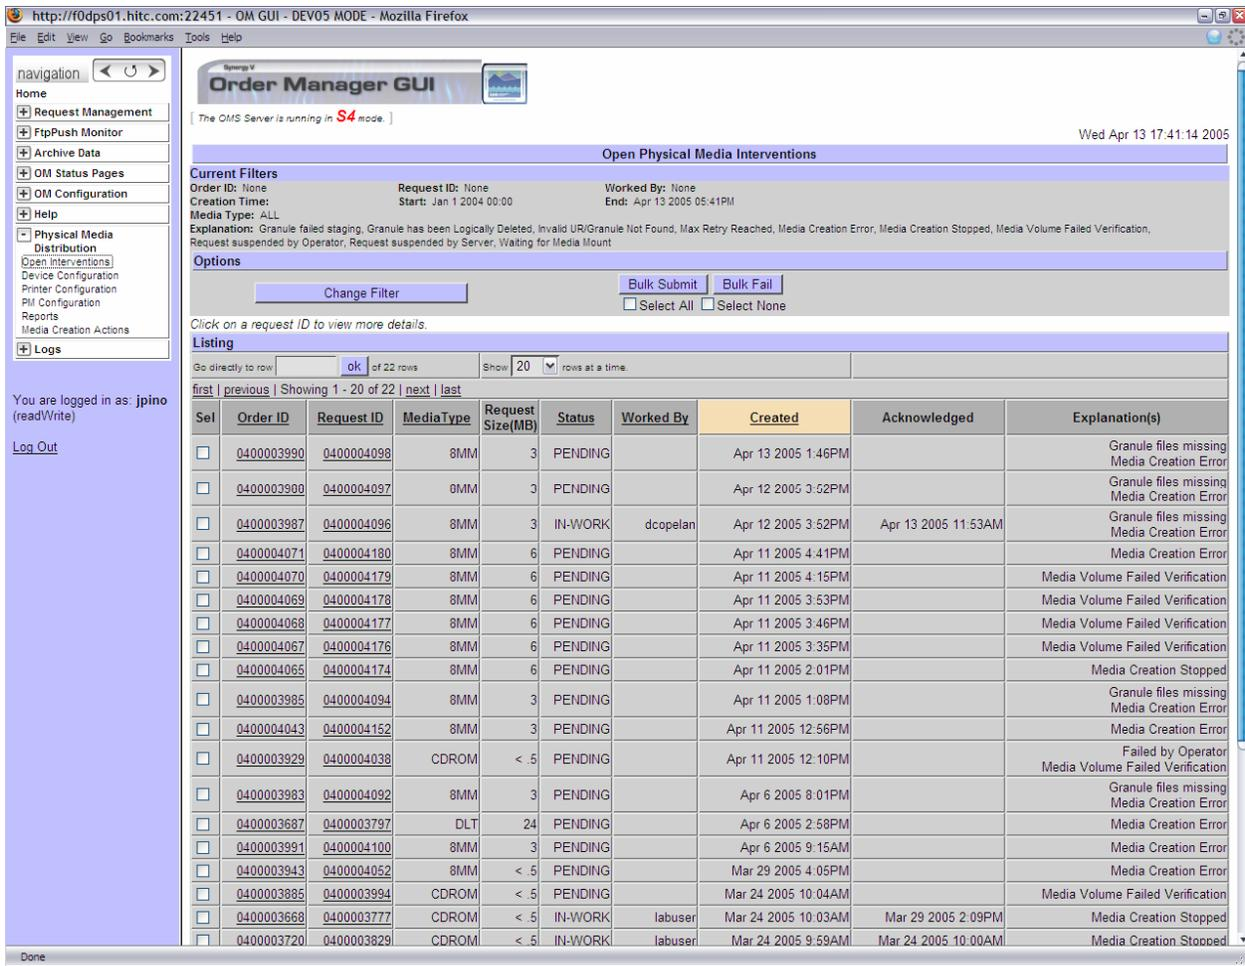

Figure 4.11.13-44. PMD Intervention Listing
Errors with Physical Media Distribution will be handled much in the same way that Interventions for Distribution Requests are handled. An Operator Intervention will be generated by the OMS Server, which will be displayed in the OMS GUI Open Interventions Listing. A separate Open Interventions page under the “Physical Media Distribution” menu lists only Interventions related to PMD errors. See **Figure 4.11.13-44**.
- The operator may apply dispositions unique to media distribution interventions (see Intervention Options below and **Figures 4.11.13-45** and **4.11.13-46**). Before the operator can apply an intervention disposition, any pending dismount actions must be confirmed by clicking on the 'Dismount Volumes' button (see Figure 4.11.13-45).